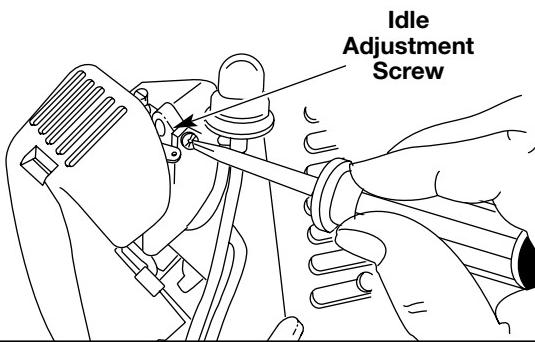

Fig. 6-15
The idle speed of the engine is adjustable the screw next to the air filter cover (Fig 6-15).
2. Release the throttle trigger and let the engine idle. If the engine stops, insert a small phillips or flat blade screwdriver into the screw next to the air filter cover (Fig. 6-15). Turn the idle speed screw in, clockwise, 1/8 of a turn at a time (as needed) until the engine idles smoothly.